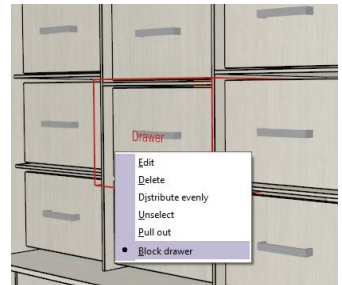

Fig. 83 – Blocking drawers
When editing drawers, in the context menu you will also see a **'Block drawer'** function (Fig. 83).
- in the menu under the right mouse button choose the **'Block drawer'** option (Fig. 83).